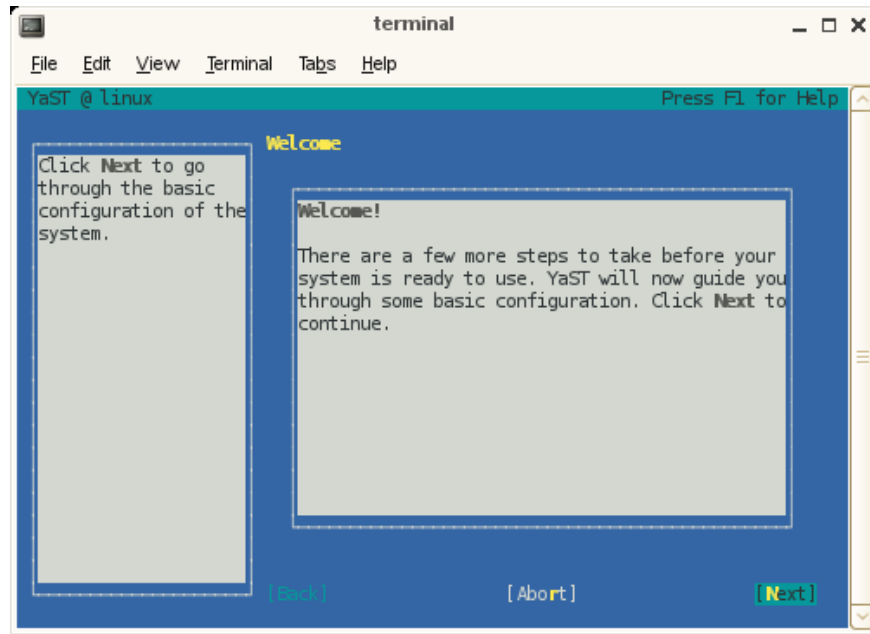

Figure 2-2 YaST **Welcome** Screen
6. After the reboot completes, the YaST first boot installation tool starts and a **Welcome** screen appears, as shown in Figure 2-2 on page 37. Click on the **Next** button to proceed.